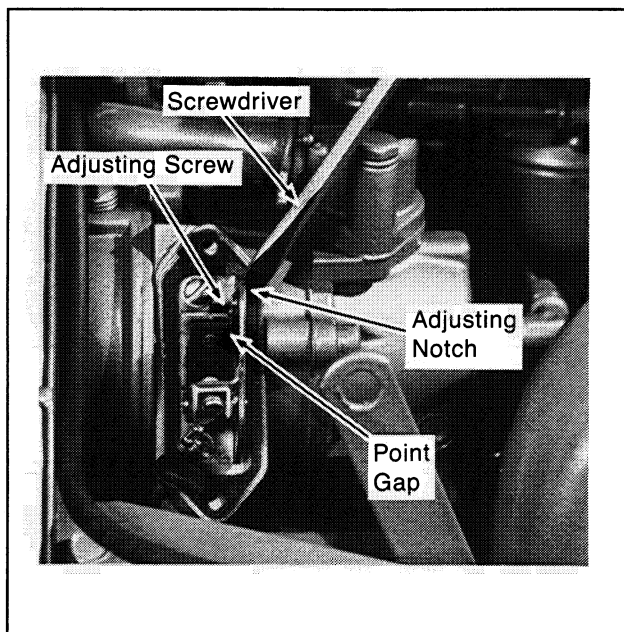

Figure 3-8. Breaker Adjustment
5. Measure the gap with a feeler gauge. The gap at full open should be 0.020 in. (0.51 mm). If adjustment is necessary, loosen the point gap adjustment screw with an offset screwdriver or allen wrench. Adjust the gap to 0.020 in. (0.51 mm) by inserting a screwdriver blade in the adjusting notch and shifting the movable plate. See Figure 3-8. Securely tighten the adjusting screw after setting the gap.